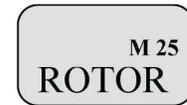

Figure 4
5. Press the "MR" key to change the alpha/numeric label then press the "ENT" key to store the frequency and label into the memory location. (See Figure 4)